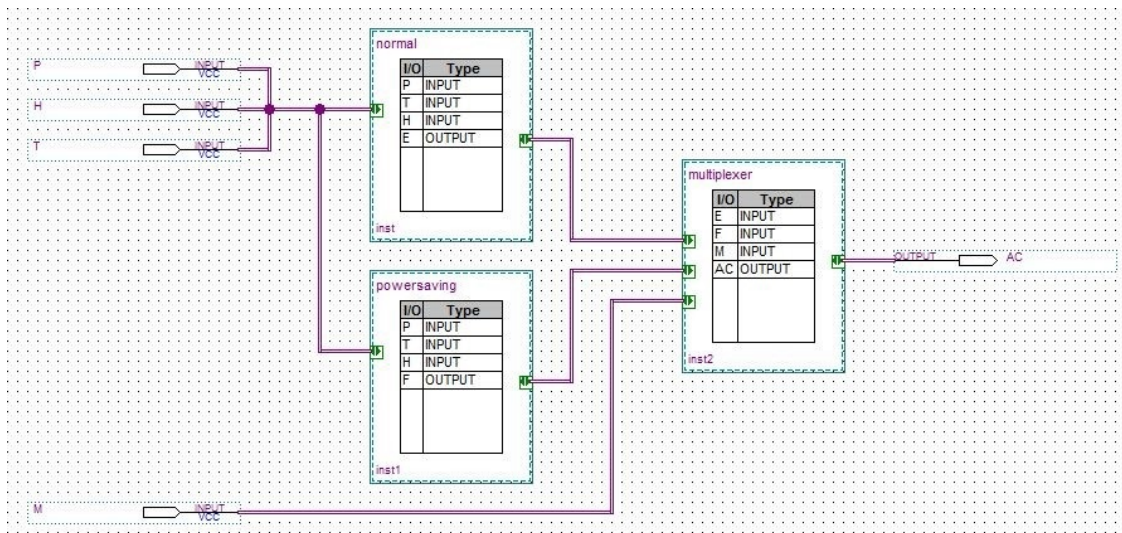

Figure 2: Final Layout of *Lab4step2*.
- Next, create the blocks that would represent the A/C components. Click on the block tool from the upper toolbar (see Figure 2). Left click anywhere on the blank block diagram file and drag your mouse. Repeat this process 2 more times. The three blocks would represent the components of your A/C system. Right-click on the 1st block and click **Properties**. Rename the block *normal*, then click on I/O tab and enter P, T, H as its inputs and E as its output. Repeat the same step for the other blocks (using the correct input/output names, of course). Make sure that the naming convention is same as mentioned in the problem statement above.
- Enter 4 input pins (P, H, T, M) and one output pin (AC) in the design file.